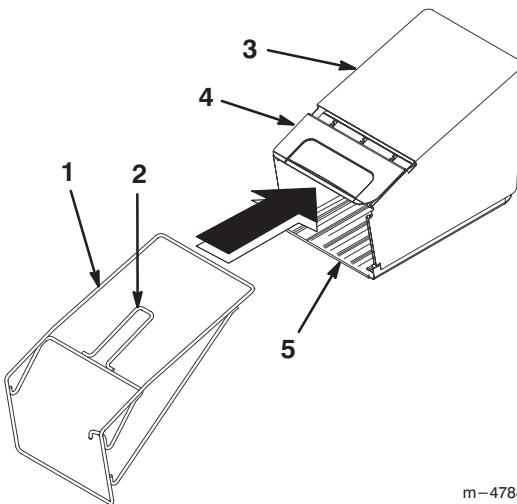

Figure 5
2. Position the bag cover on top of the frame as shown in Figure 5.
1. Insert the grass bag frame into the grass bag as shown in Figure 5.